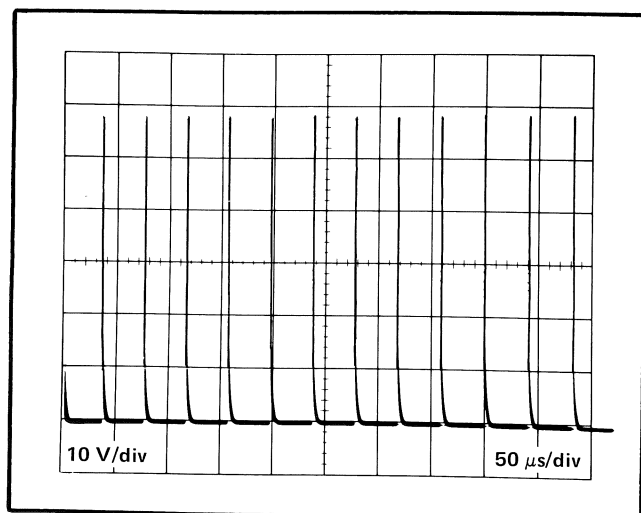

Fig. 6-12. Waveform at Q75 base showing properly adjusted Avalanche control (R78) for Step 9.
h. Adjust control R78 for a waveform with 58 V spikes. See Fig. 6-12 for the waveform.